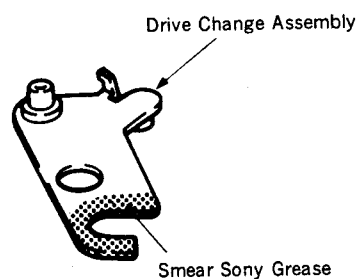
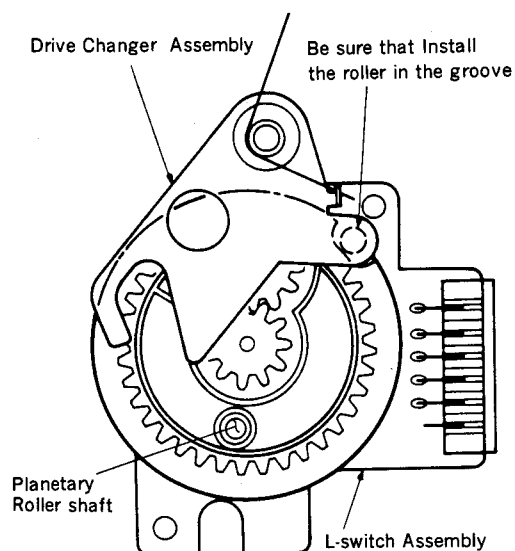

Fig. 2
Fig. 3
- (1) Replace the L-switch Assembly with a new one and apply a half drop of oil on the Planetary Roller Shaft.
- (2) Assemble the parts with Removal Steps (12) and (13) in reverse order.
- (3) Press the L-mode select button (right or left) of the Mode Selector and check that the L-switch Assembly rotates.
- (4) Apply a half drop of oil on the fixing shaft of the Drive Changer Assembly.
- (5) Smear Sony Grease to the U groove of the Drive Changer Assembly as shown in figure 2.
- (6) Assemble the parts with Removal Steps (10) and (11) in reverse order.
- (7) Press the L-mode select button (right or left) of the Mode Selector and check that the L-switch Assembly rotates.
- (8) Assemble the parts with Removal Steps (7) to (9) in reverse order.
- (9) Press the L-mode select button (right or left) of the Mode Selector so that the Planetary Roller Shaft is placed to the position shown in figure 3.
- (10) Assemble the parts with Removal Steps (1) to (6) in reverse order.